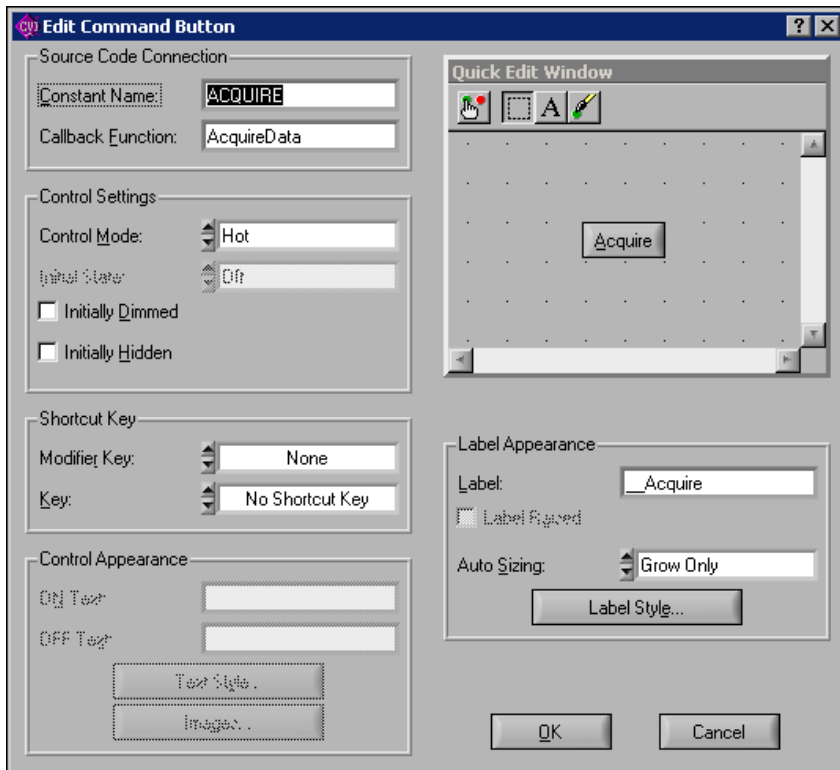

Figure 3-2. Edit Command Button Dialog Box
5. Make sure the Edit Command Button dialog box matches the one shown in Figure 3-2 and then click **OK**.